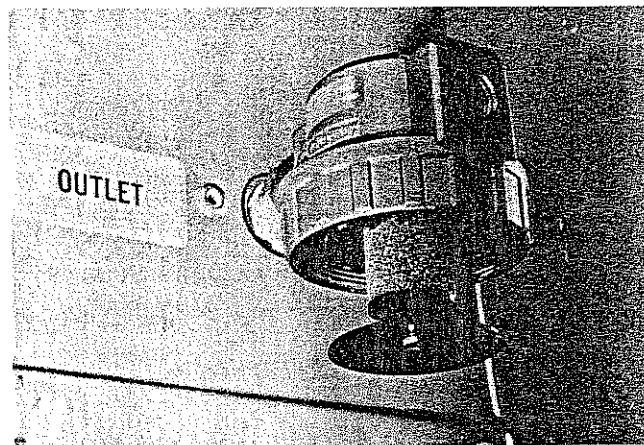

Figure 7. SEPARATOR WITH BOWL AND DRAIN TRAP REMOVED
C. Depressurize the dryer. Dismantle and clean the separator and drain trap as described under Daily Maintenance, above. (See Figure 7 for a typical separator with bowl and drain trap removed.)